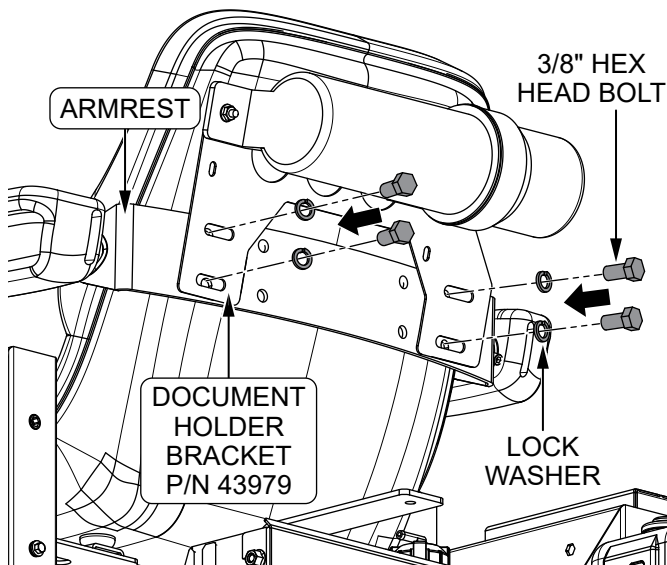

Figure 14. Install Armrest And Document Holder Bracket
4. Secure the **document holder bracket (P/N 43979)** and **armrest** to the seat using the **four 3/8" hex head bolts and lock washers** that were removed during step 7. See Figure 14.